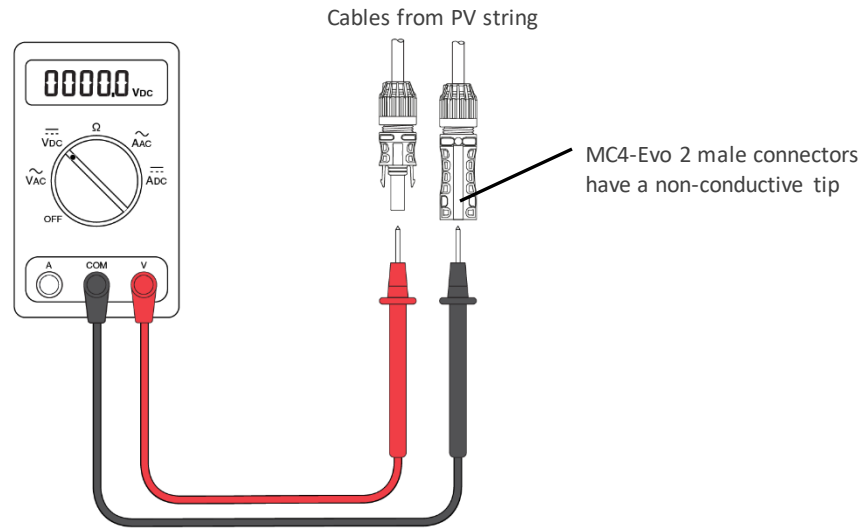

Figure 11: Check the polarity and gender for PV string
7. Follow your safety procedures and protocols and use an appropriately rated multimeter to measure the voltage and verify the polarity for the string(s) of modules being connected to Input 2. See Figure 11.